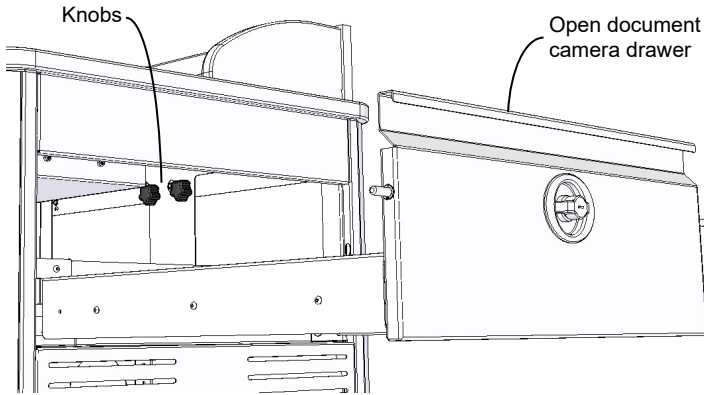

Figure 1.1
1. Open the document camera drawer fully to access the knobs securing the audience-side panel. **Figure 1.1.**
2. While keeping a hand on the audience-side panel, unscrew the (2) knobs inside the lectern behind the panel and remove.